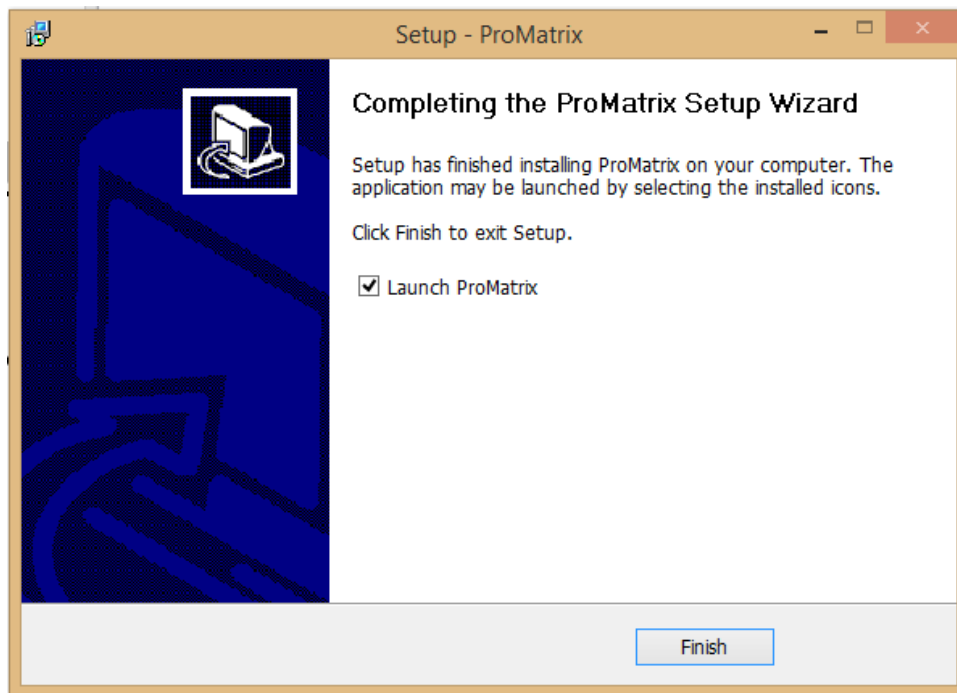

Figure 4: Installation Success Window
- Once installation has been successfully completed the window as shown above in figure 4 will be displayed. It is recommended you de-select the Launch ProMatrix tick box before clicking on finish